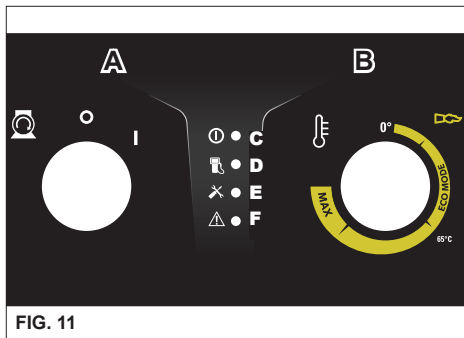

FIG. 11
N.B. To reset the indicators, rotate the main switch "A" to the "0" position and then to the "I" position (fig.11).
When you have finished using the "Hot Water or Steam Phase", turn the thermostat knob "B" to position '0' (fig.11), allow the appliance to cool down for approx. 3 minutes with the gun open.